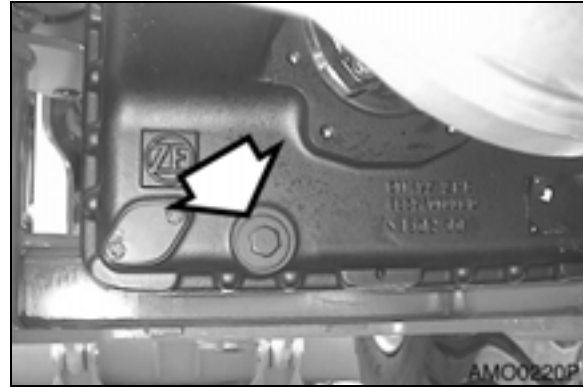

Figure 73
3. Remove drain plug. Allow all transmission fluid to drain into a receptacle. Properly dispose of drained fluid. Clean drain plug (Figure 73).